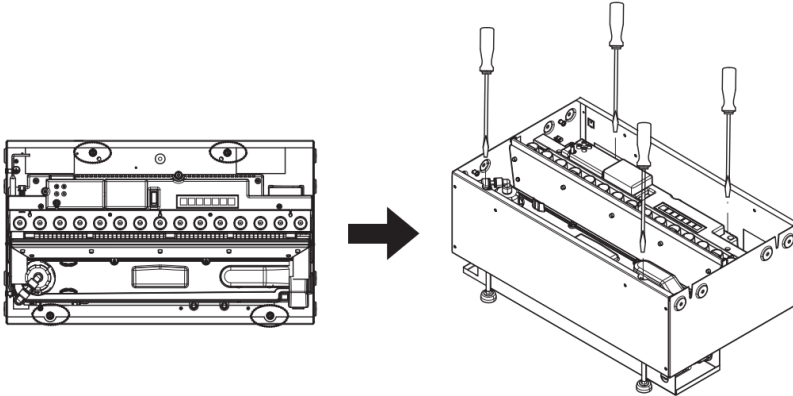

Fig.5
2. Ensure the product is at the correct height to suit the installation and ensure it is adequately level. This can be done by adjusting the adjustable feet with a flat head screwdriver. (Fig 5).